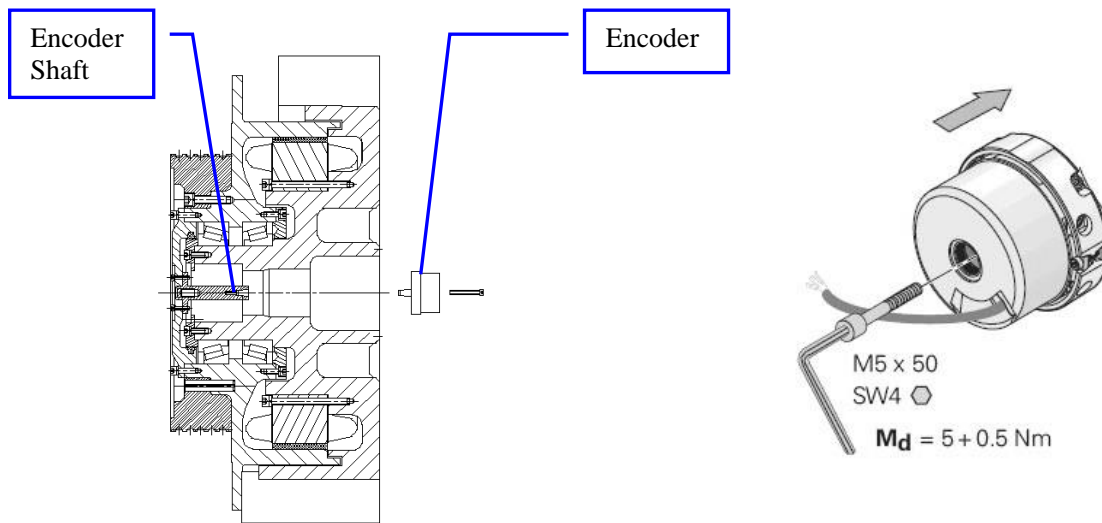

Figure 28: Install encoder
3. Install the encoder to the encoder shaft. Use the bolt M5 to secure the encoder to the encoder shaft using the hex wrench (4mm). Use 4mm Allen socket and torque wrench to tighten the bolt to 44 in-lb. See Figure 28.